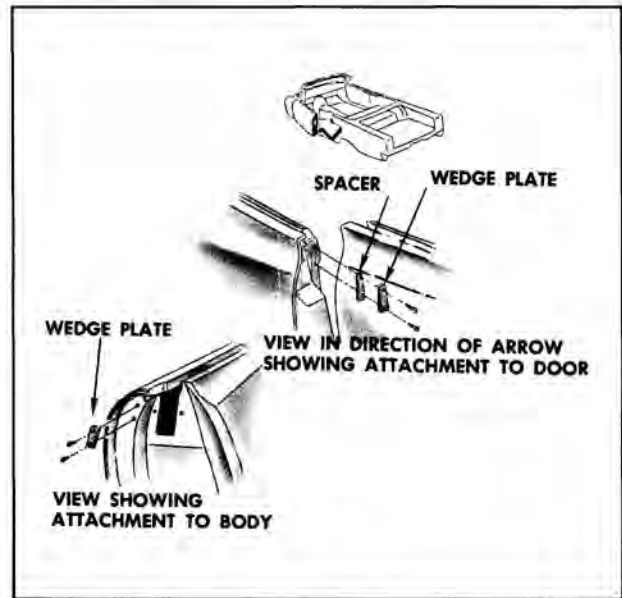

Fig. 16-333 Door Wedge Plate Installation
1. Remove two screws securing wedge plate to panel and remove wedge plate. (Fig. 16-333)